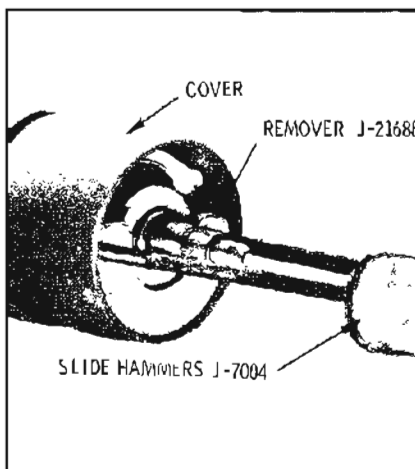

Figure 8-80—Removing Actuator Cover
5. Remove actuator cover. See Figure 8-80.